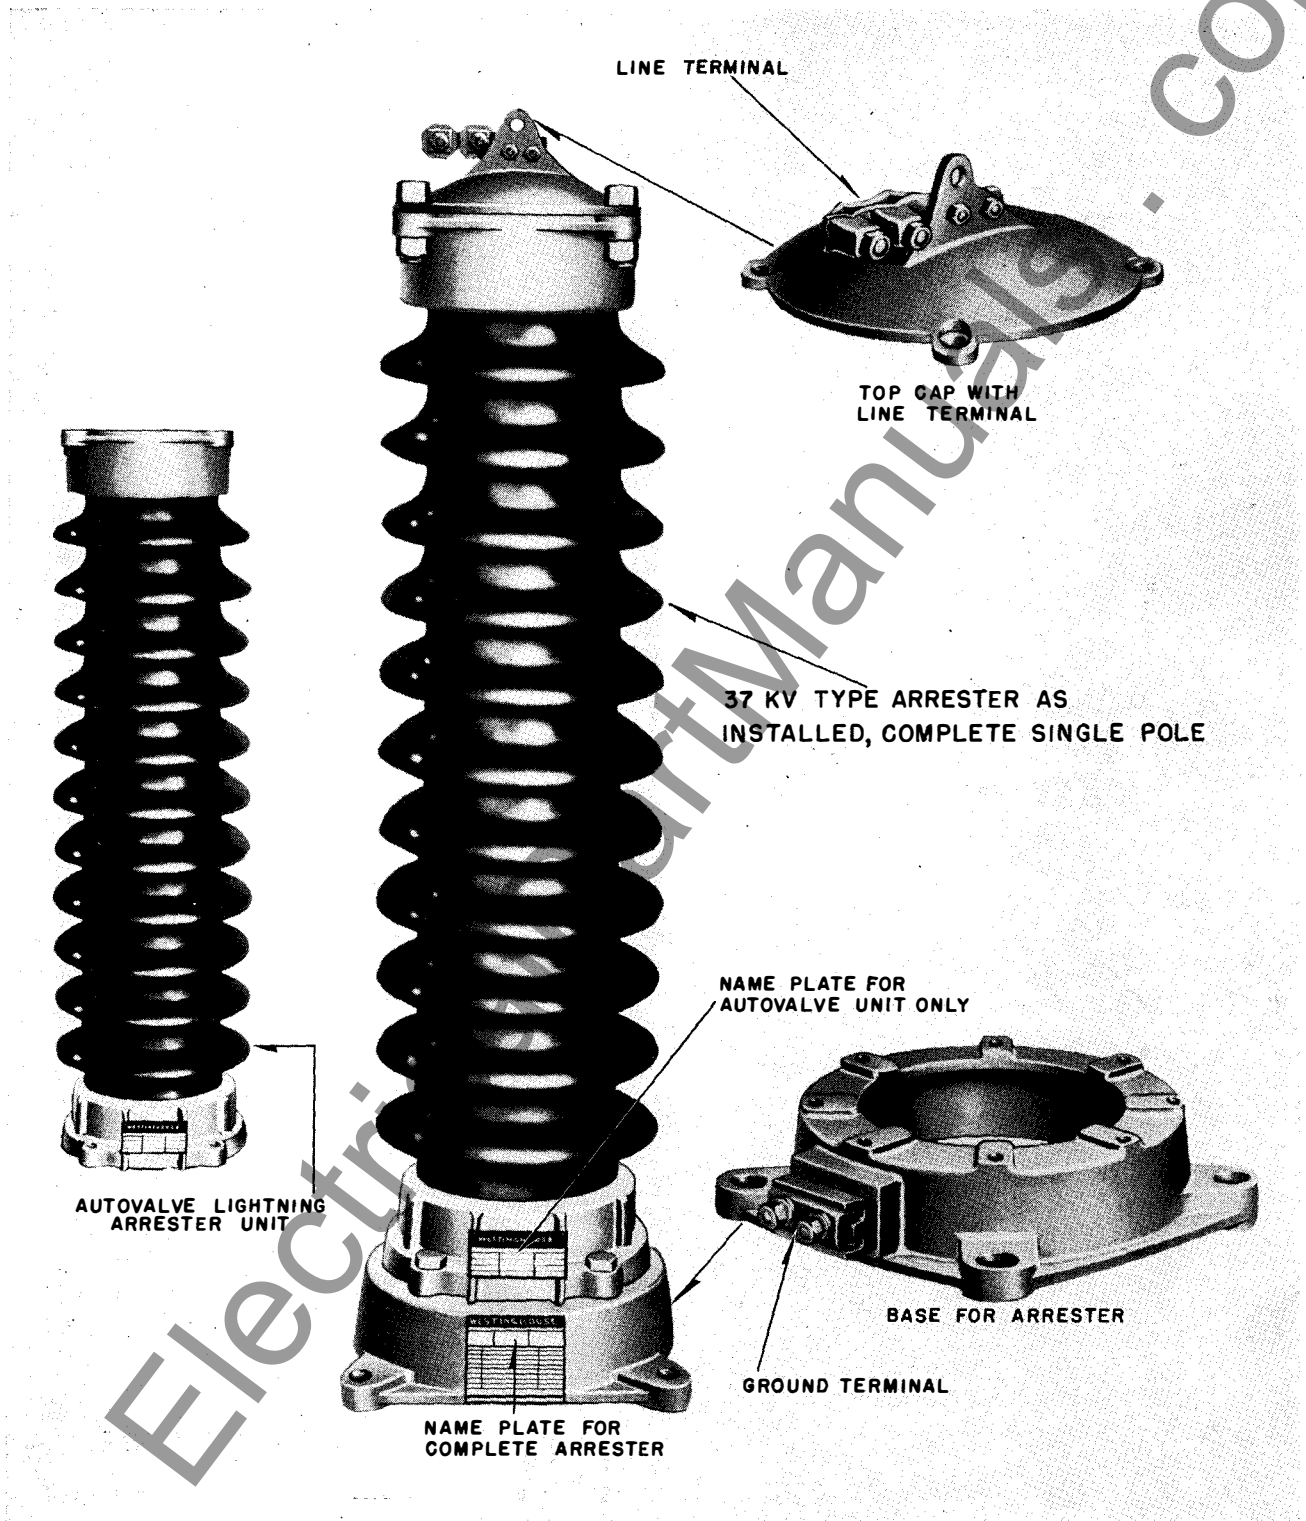
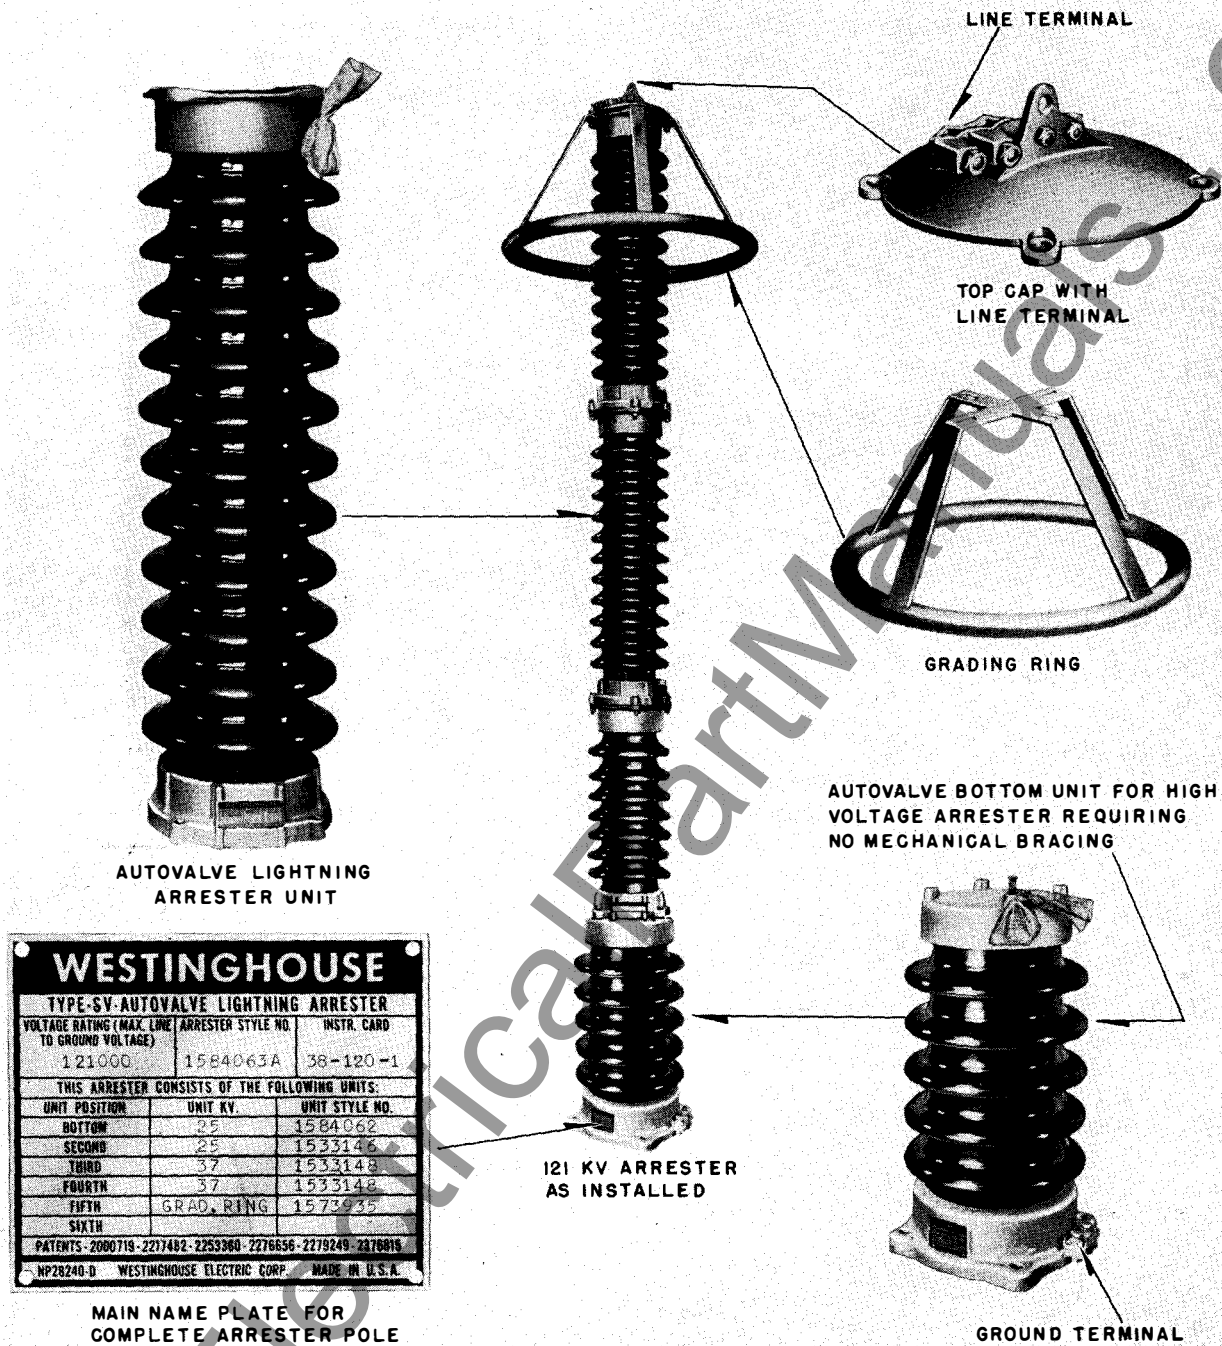
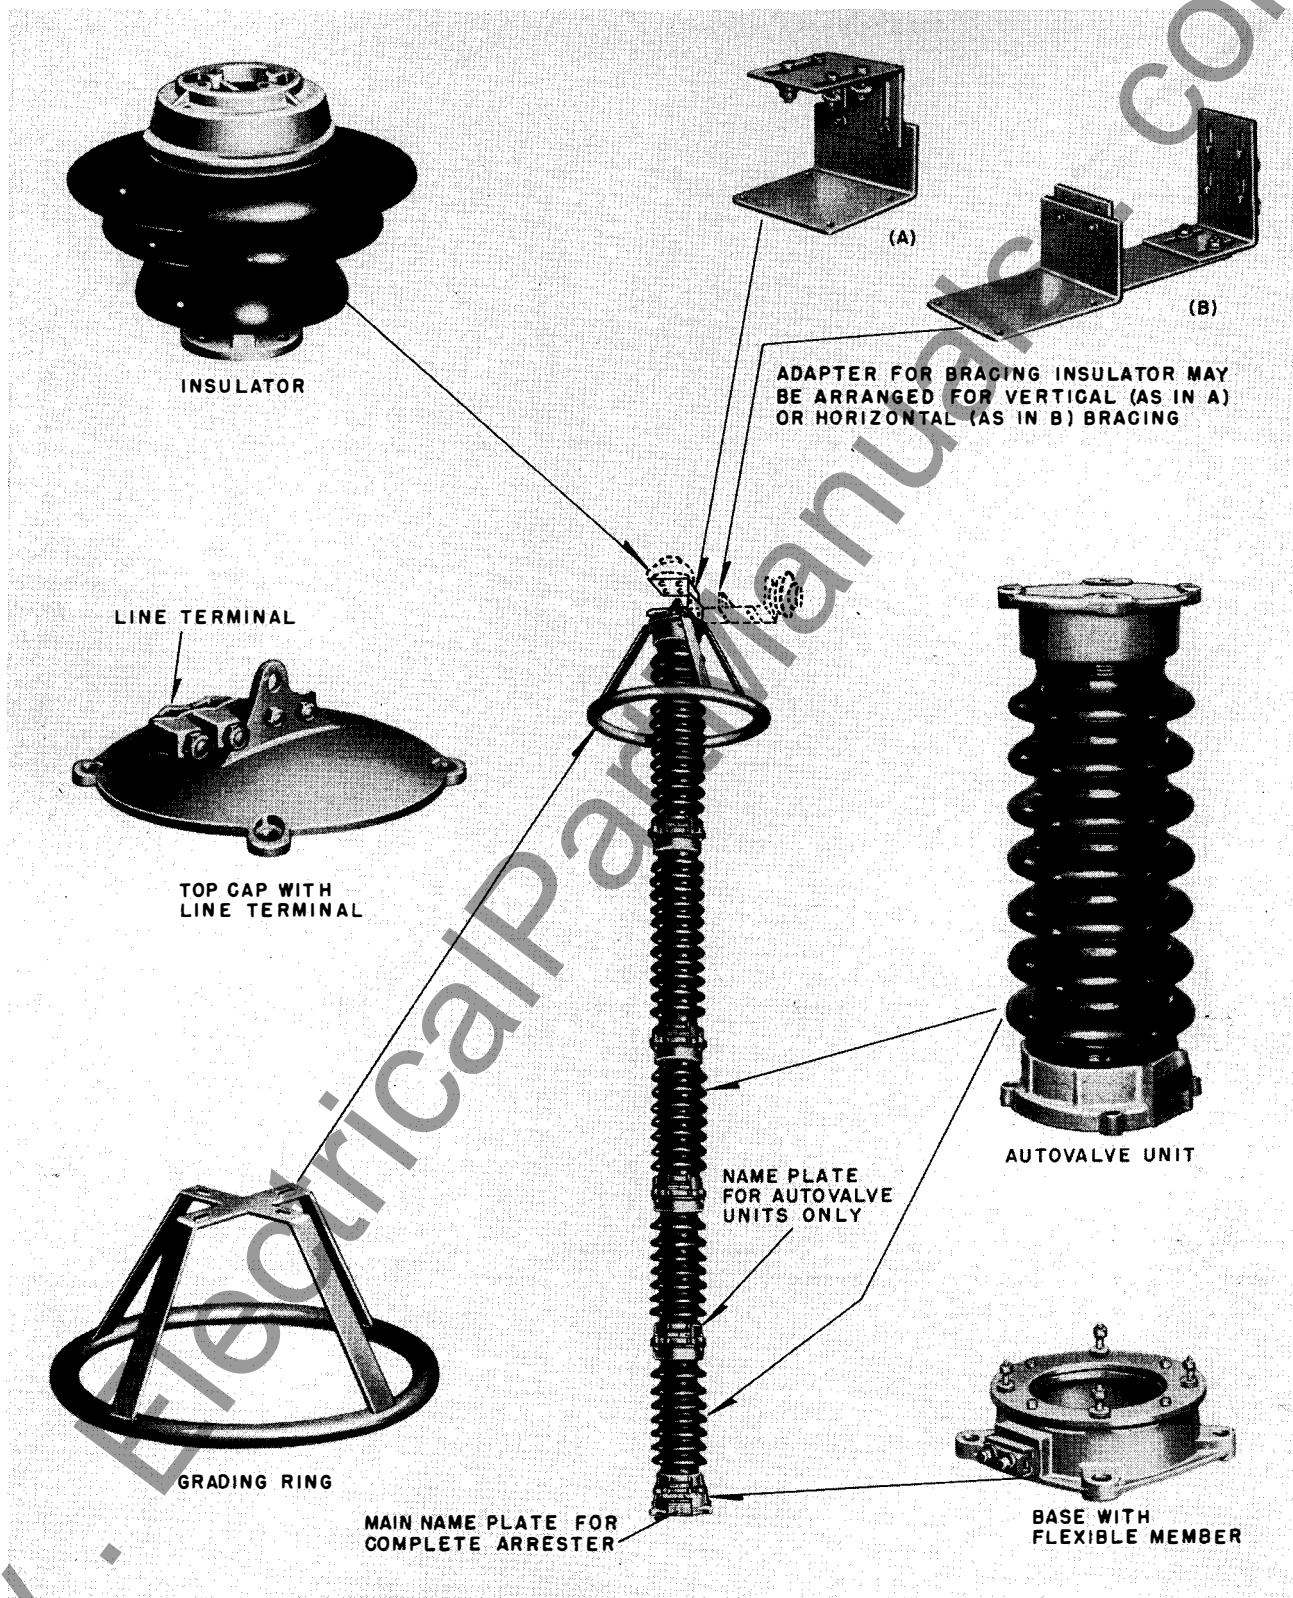

FIG. 1. Typical 37 kv Type SV Autovalve Lightning Arrester
FIG. 2. 121 kv Type SV Autovalve Lightning Arrester
FIG. 3. 145 kv Type SV Autovalve Lightning Arrester
- (a) The arrester unit or units; these are the porcelain weather casings with metal end castings, Figs. 1, 2, 3. They contain all of the operating elements. Each unit has a small nameplate mounted on the bottom end casting giving the identification and rating of the unit only. The necessary hardware is in a sack tied to one end casting of each unit.
- (b) Cap with line terminal attached, Figs. 1, 2, 3.
- (c) Base with ground terminal and nameplate giving the identification and rating of the complete arrester pole, Fig. 1. This separate base is not furnished with the 121 kv arresters, Fig. 2.
- (d) In the case of arresters with ratings of 97 kv and higher a grading ring, as shown at the right of Fig. 2, to be attached to the top of the column of units, between the top unit casting and the cap.
3 to 37 kv inclusive	One arrester unit plus base and cap. (See Fig. 1).
The 121 kv arresters include a large substantial unit to be used as the bottom unit as illustrated in Fig. 2. These arresters do not have separate bases, but the bottom arrester unit is bolted directly to the foundation. Standard units are bolted to this unit to make the complete arrester pole. 121 kv arresters include a grading ring and a cap.
A typical main nameplate is shown in Fig. 2. It gives the voltage rating and style number of the complete arrester. In addition to this, the lower part of the nameplate shows the voltage ratings and style numbers of the arrester units of which the arrester consists, listed in the proper order of assembly, starting from the bottom. In any inquiries about the lightning arrester, refer to the type, voltage rating, and style number given at the top of the large nameplate covering the complete arrester.
Start with the base. For all arresters of 3 kv to 109 kv inclusive, the same base is used. This base (shown in Fig. 1) has no flexible steel spring ring, such as is supplied with the high voltage, braced arresters (Fig. 3). Make sure that the proper base is received. Should a base with a spring ring as shown in Fig. 3, be shipped by mistake, remove the spring ring and discard it.
On 97, 109, and 121 kv arresters add the grading ring and the cap as in Fig. 2. The arrester is now complete except for the connection of the line and ground leads.
On the 121 kv arresters (Fig. 2) the unit is placed between the foundation and the bottom arrester unit.